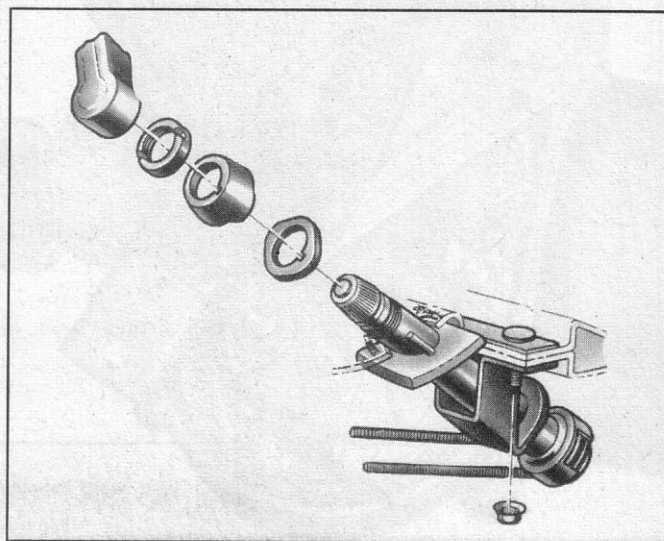

Fig. 6—Wiper Transmission Mounting
2. Remove nut, bezel and gasket from transmission (fig. 6).